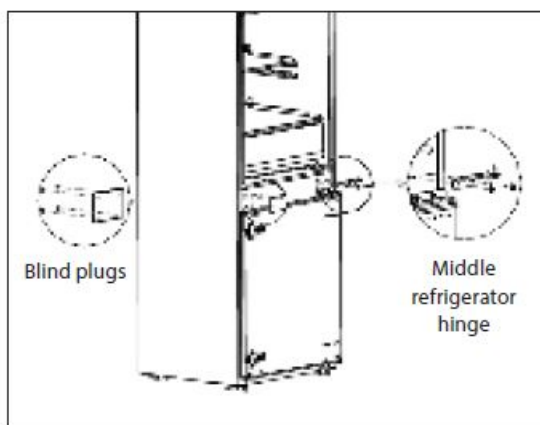

Fig. 4
2. Remove the blind plugs and the middle hinge of the refrigerator from the middle part of the appliance (Fig. 4).